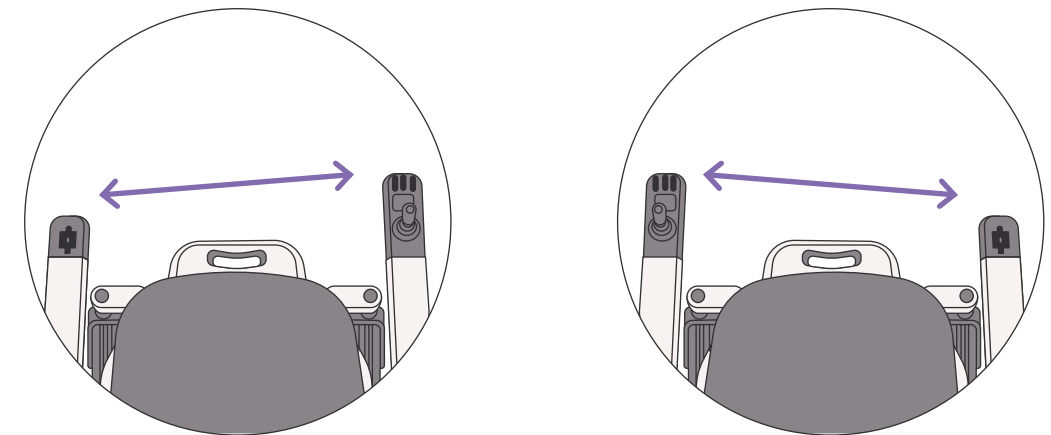

Figure 4.5.1
3. Swap the controllers, reconnect the harnesses, insert each controller into the corresponding armrest slot, and securely tighten the socket screws with the hex wrench. (See Figure 4.5.1)